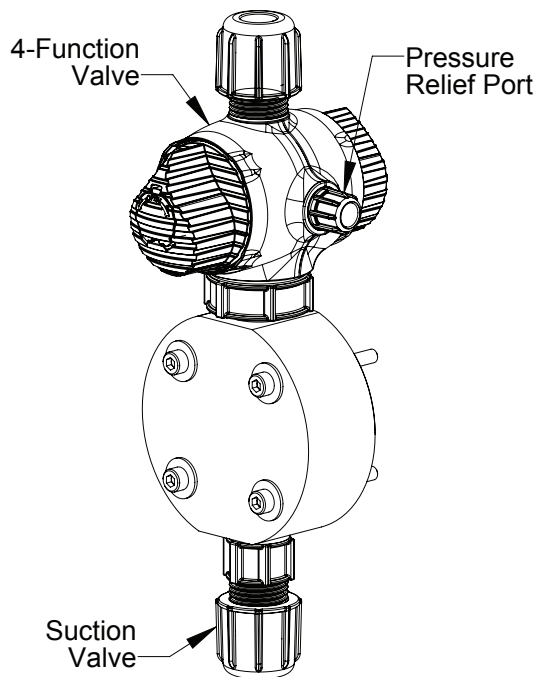

FIGURE 3
1. Connect pressure relief tubing to the pressure relief port (**FIGURE 3**). Route tubing to the solution tank. This tubing must not be submerged in the solution.